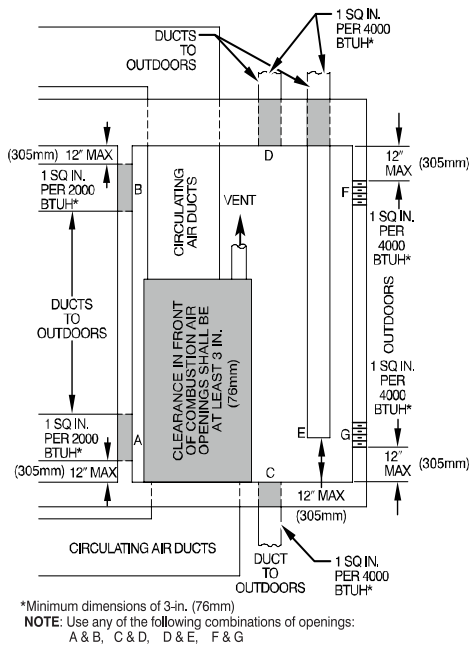

Fig. 6 – Air for Combustion, Ventilation, and Dilution for Outdoors L12F012
2. **Fig. 6** illustrates how to provide TWO OUTDOOR OPENINGS, one inlet and one outlet combustion and ventilation air opening, to the outdoors.
- b. Size openings and ducts per **Fig. 6** and **Table 4**.
- c. TWO HORIZONTAL DUCTS require 1 sq. in. (645 sq. mm) of free area per 2,000 BTU_h (1,100 mm²/kW) of combined input for all gas appliances in the space per **Fig. 6** and **Table 4**.
- d. TWO OPENINGS OR VERTICAL DUCTS require 1 sq. in. (645 sq. mm) of free area per 4,000 BTU_h (550 mm²/kW) for combined input of all gas appliances in the space per **Fig. 6** and **Table 4**.
- a. 1 sq. in. (645 sq. mm) of free area per 3,000 BTUh (734 mm²/kW) for combined input of all gas appliances in the space per Fig. 6 and Table 4.